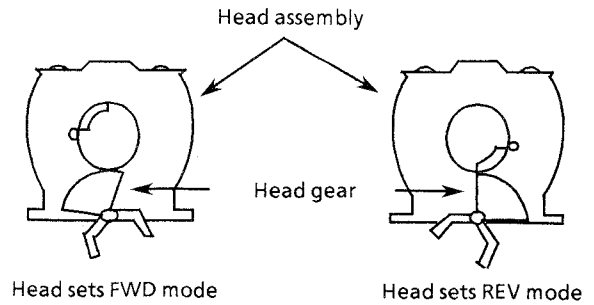

Fig. 12 Bottom view of the head assembly
* Refer to the Fig.12 when installing .